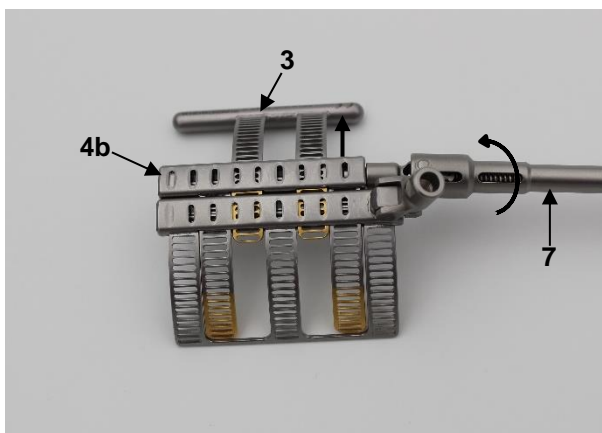
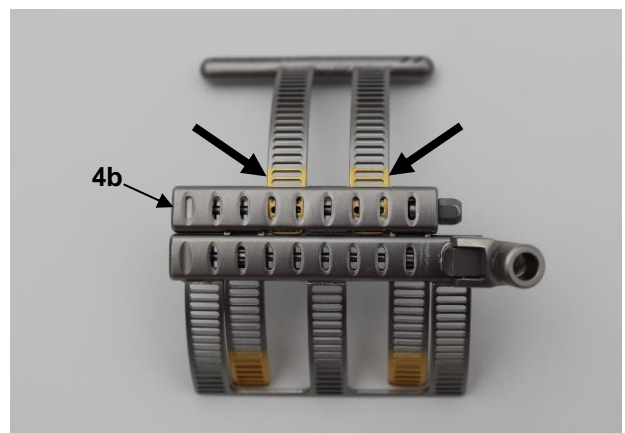

Fig. 2a
Fig. 2b
To do this, turn the transport mechanism on the box module of the primary element (4b) clockwise using a suitable screwdriver (7) (Fig. 2a) until the first two gold-colored slotted holes are extended from the box module of the primary element (4b), as shown in Figure 2b.